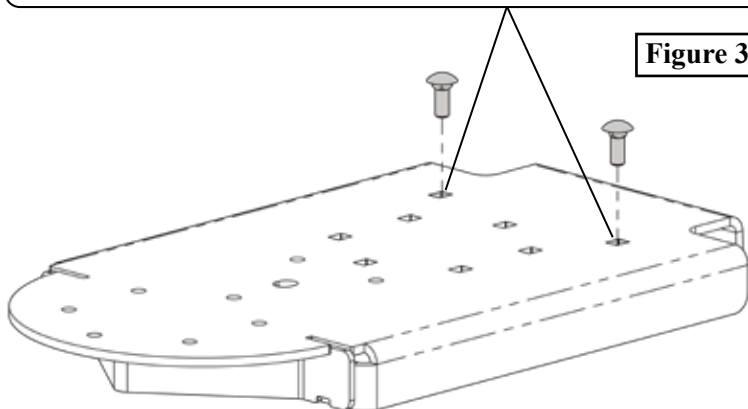

Figure 3
4. Place the subassembly onto the push tube. Ensure gusset (1) is placed inside the rib on the push tube. Loosely install front bolts (5.1) and lock nuts (5.2) as shown in **Figure 3**.
3. For the 1" leveling height configuration, see **Figure 2**. For the 2" leveling height configuration, see **Figure 3**.
3. Once Side Shield is in place, secure wear bar and side shield using the 5/16 bolt (3.2) and 5/16 nut (3.6) as shown in **Figure 3**.
3. Next, insert the Clevis Pin (4.6) through Side Plate (2) of the Snatch Block, then through the Pulley Mount (1), and out through the opposite Side Plate (2), as shown in **Figure 3**. Secure the Clevis pin (4.6) with the Cotter Pin (4.7).